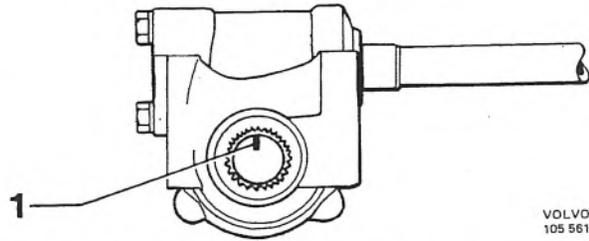

Fig. 6-49. Steering housing in middle position
1. Place the steering housing in the middle position (Fig. 6-49) and turn the steering wheel so that the front wheels point straight forward.